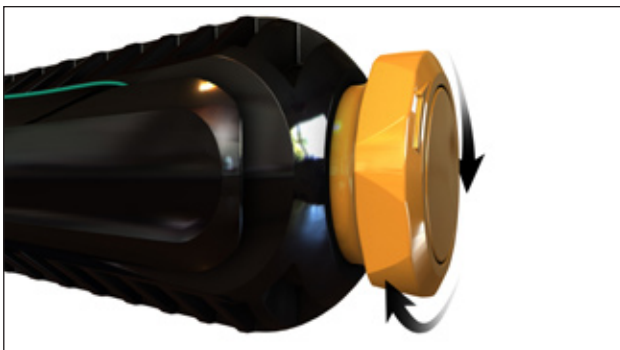

Figure 11
- b. If desired, secure the free ends of the tightened suture using the features located on the inserter handle. Maintain slight downward pressure on the inserter, locate the torque limiter knob on the proximal end of the inserter handle and rotate it clockwise (Figure 11). Continue rotating the knob until several clicks are heard. At this point, turning the knob will no longer advance the inner anchor plug.